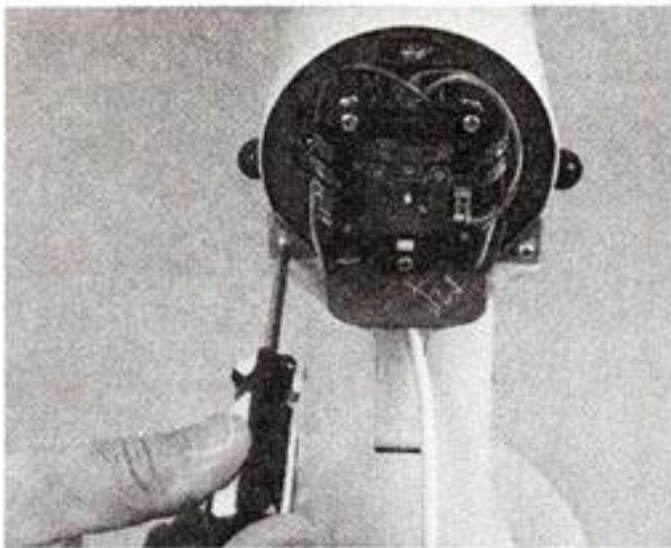

Fig. 83
- G. Place trim band (Fig. 83) on the gear case and motor housing and with the two #6-32 x $\frac{3}{16}$ " binding head screws, fasten it to the end of the housing. Tuck in all the wire leads and place the end cover on end of machine and secure it with the #6-32 x $\frac{3}{8}$ " oval head screw (Fig. 84).